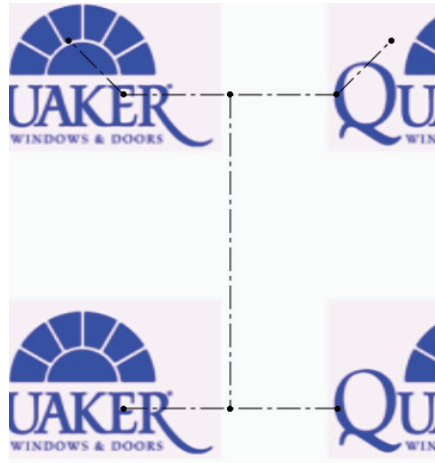

Fig. 2
- Cut the weather-resistant barrier (WRB) in a "I" pattern. (Fig. 2)
- Cut the top corners of the WRB at 135° and 9" long. (Fig. 2)